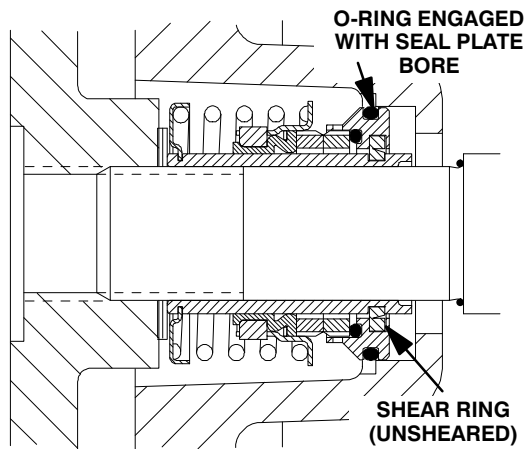

Figure 6. Seal Partially Installed
Clean and inspect the impeller as described in **Impeller Installation and Adjustment**. Install the full set of impeller shims (26) provided with the seal, and screw the impeller onto the shaft until it is seated against the seal (see Figure 6).